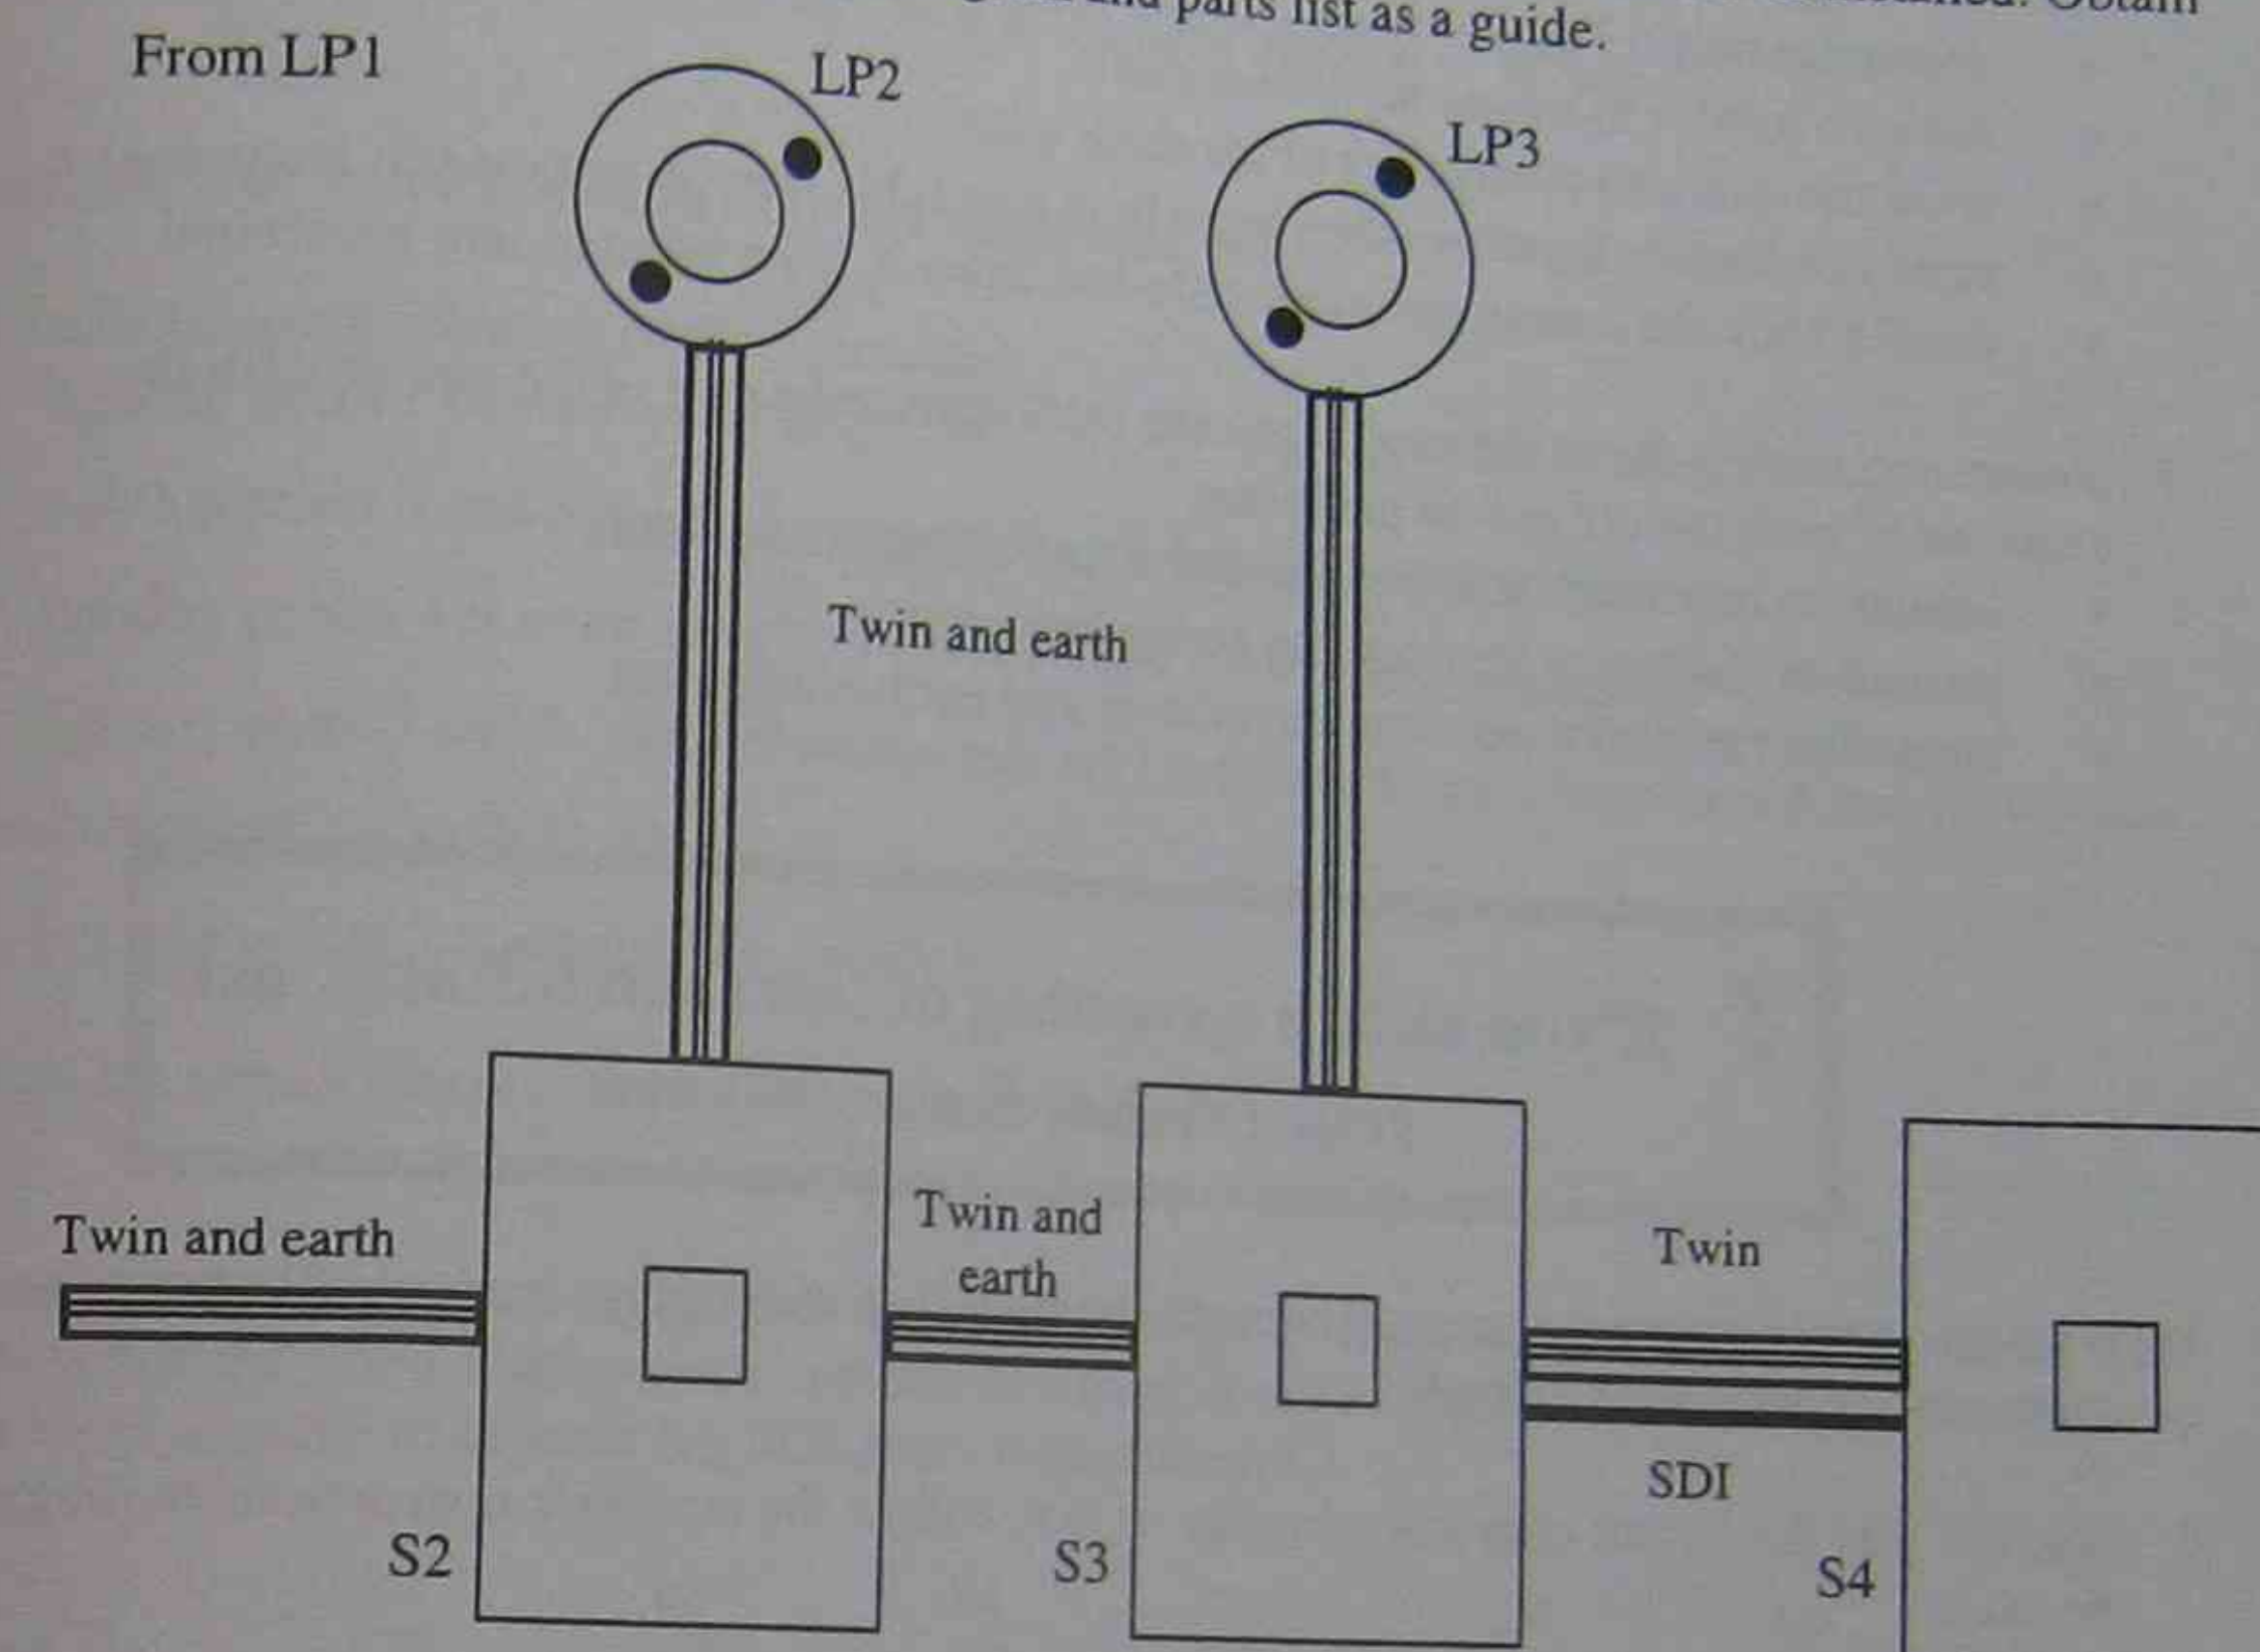

Figure 7 Equipment layout – two-way lighting circuit
1. The drawing of Figure 7 shows the layout of the additions to the circuit to be installed. Obtain the necessary equipment using the diagram and parts list as a guide.